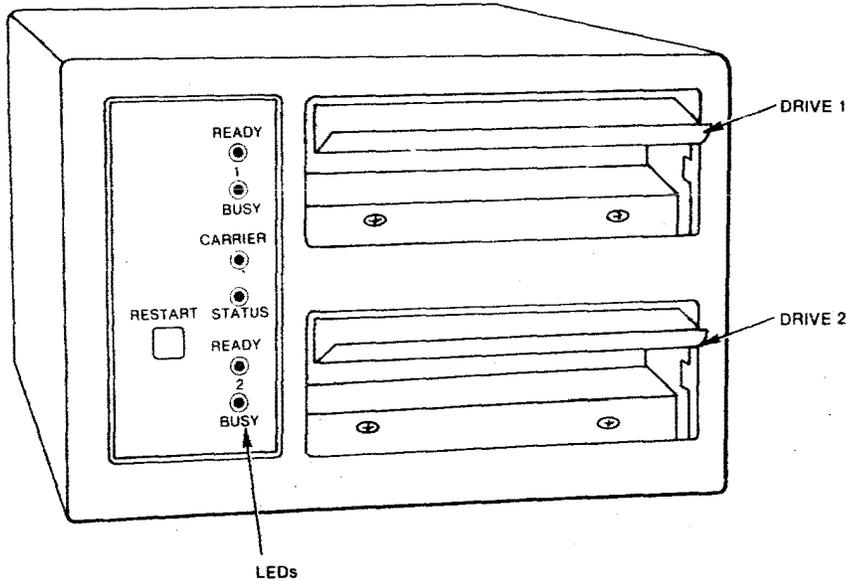

Fig. 9 — Front View of the Comm-Stor II Unit
**7.01** The front panel of the Comm-Stor II unit has several indicators to assist the installer. Two of the indicators, READY and BUSY, are duplicated in a dual drive unit to provide information about each drive. When the power switch is first turned on, all LEDs are illuminated for a short time to allow the installer to perform a visual LED test. The function of each indicator is described in the following pages (Fig. 9).